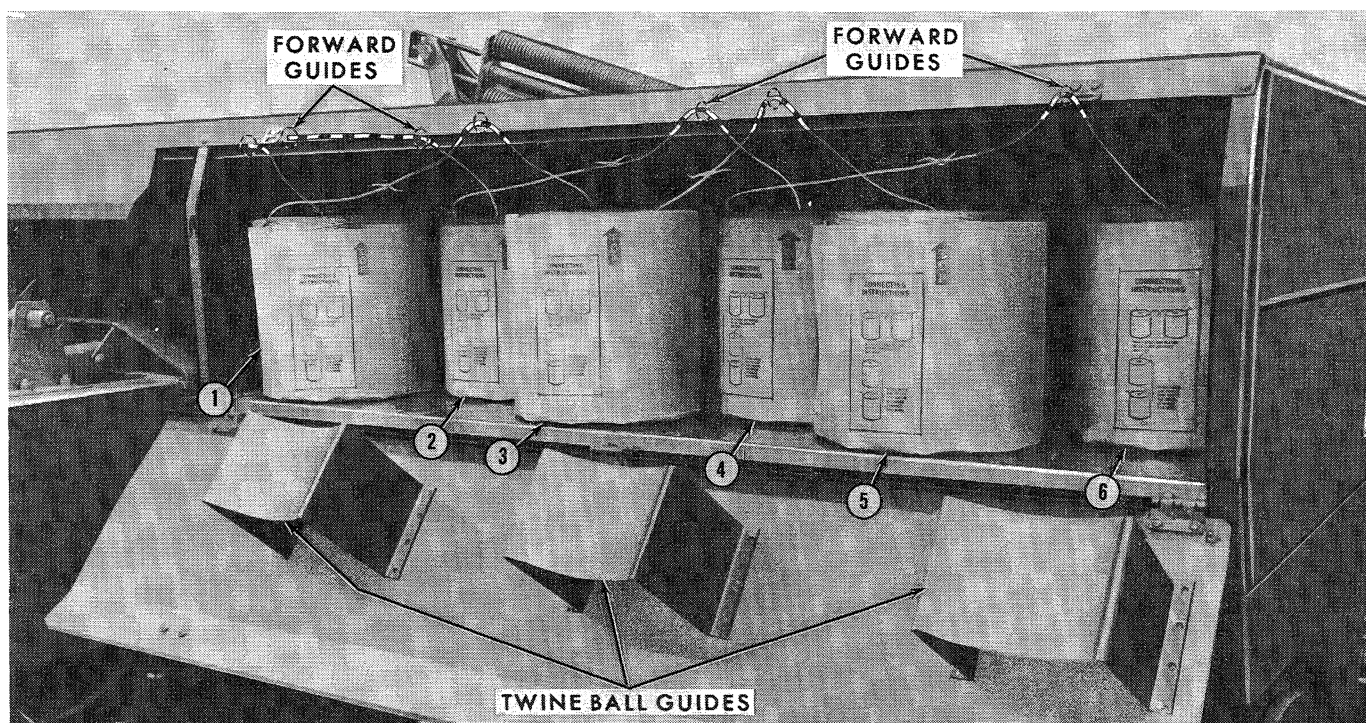
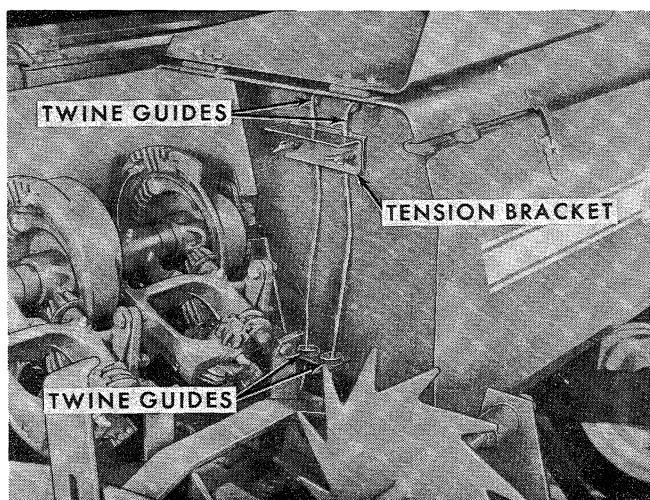
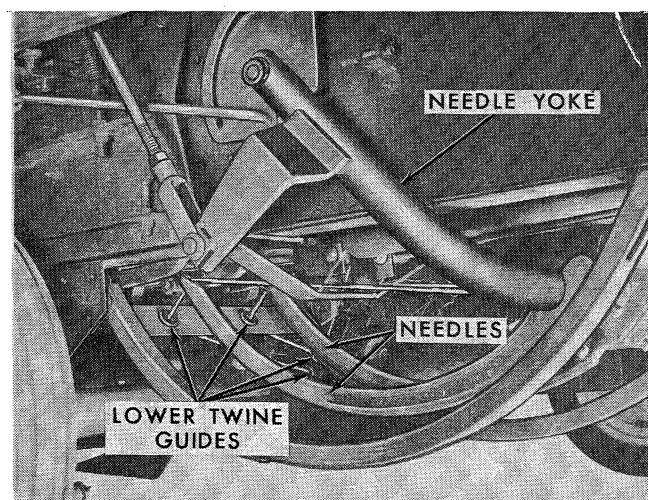

Figure 51
Figure 52
Figure 53
1. Place three balls of twine (2), (4), and (6), Figure 51, proper end up, in the twine compartment so they are adjacent to the twine ball guides.
2. Thread the inside end of ball (6) through the forward guide in the top of the compartment, then tie it to the outer end of ball (4).
3. Thread the inside end of ball (4) through the next forward guide and tie it to the outer end of the feed ball (2). Then thread the inside end of ball (2) through the next forward guide.
4. Place three more balls of twine (1), (3), and (5), proper end up, in the twine compartment as shown in Figure 51.
5. Thread the inside end of ball (5) through the rear guide in the twine compartment, then tie it to the outside end of ball (3).
6. Thread the inside end of ball (3) through the next rear guide and tie it to the outer end of the feed ball (1).
7. Thread the inside end of feed balls (1) and (2) through the guides and tension bracket as shown in Figure 52. Run the twine through the lower twine guides and needle eyes as shown in Figure 53, then tie the ends to the needle yoke.